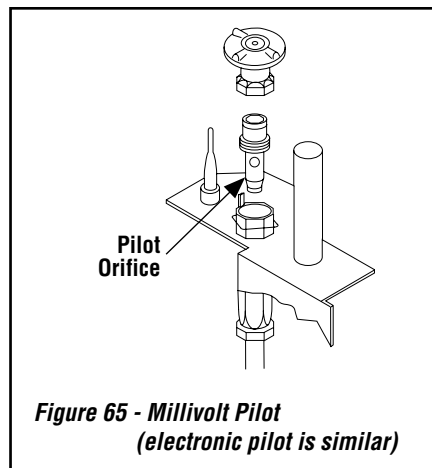

Figure 65 - Millivolt Pilot (electronic pilot is similar)
Step 9. Refer to **Figure 65** and remove the pilot hood assembly to access the hexed pilot orifice. Remove and replace the orifice with the one provided with the kit.